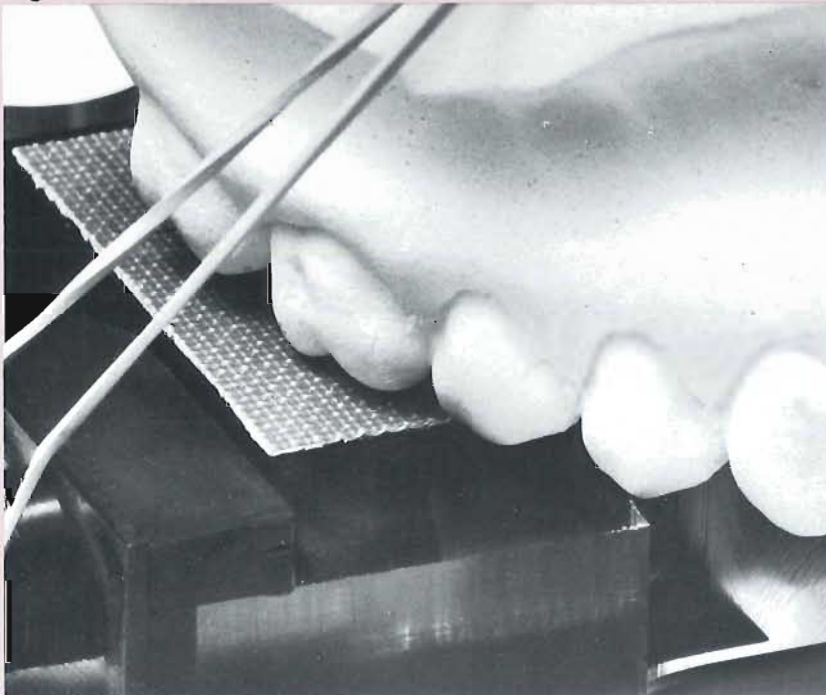

Fig. 2
**3** Determine the functional occlusal plane – a horizontal line connecting the molar and bicuspid cusp tips – by placing the upper model on the base unit (Fig. 2).